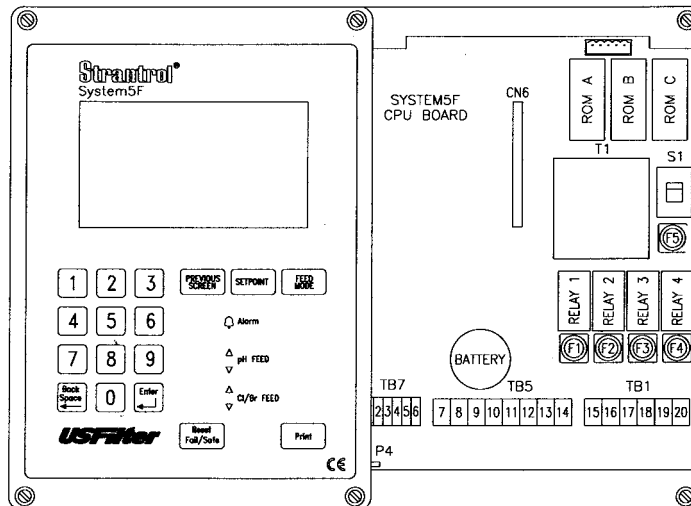

Fig 3.3
- Open System5F and place lid to the left, lining up the right two holes of the lid with the left two holes of the base. (Fig 3.3)